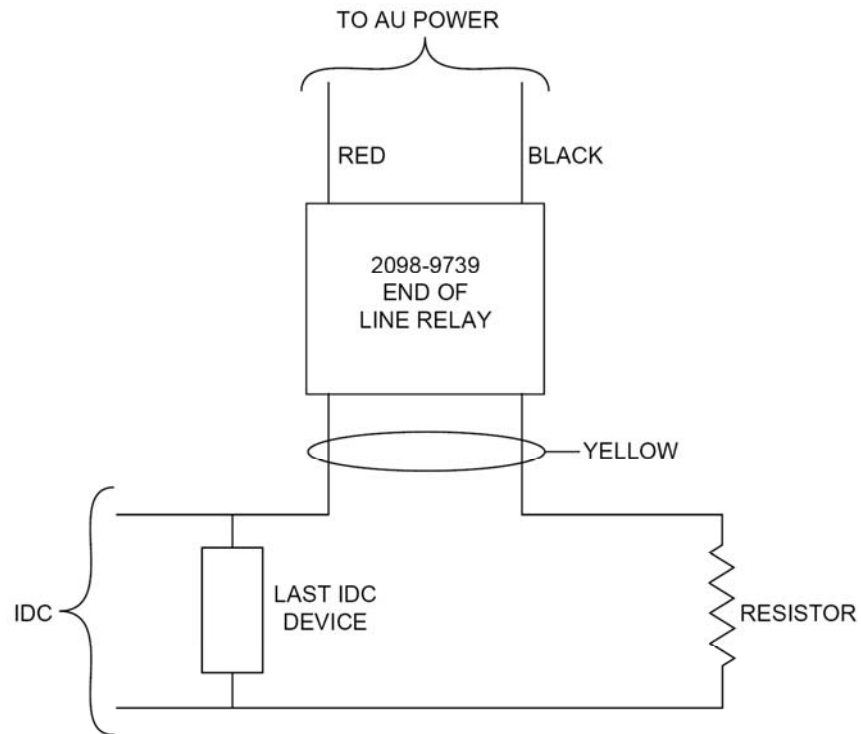

Figure 9. The EOL Relay
- *Auxiliary power only:* In order to connect a circuit using power-limited wiring, the devices being powered must all be addressable, or a UL Listed EOL relay must be used to supervise the circuit. Refer to Figure 9 for wiring directions for the EOL relay (the 2098-9739 Relay is used as an example. Other UL-Listed EOL relays can be used, depending on the application).